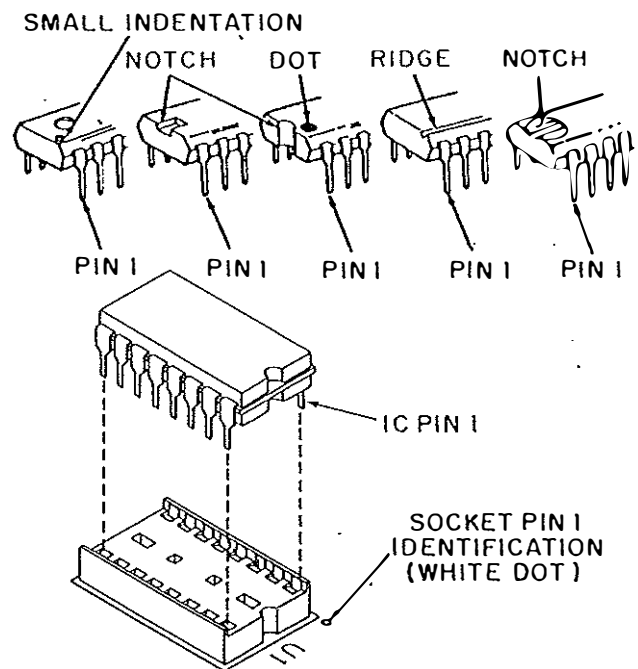

Fig. 5 - IC Orientation
4.10 Figure 5 shows common IC pin identification and proper orientation in the sockets. Figure 6 shows the location of the firmware and memory IC sockets.